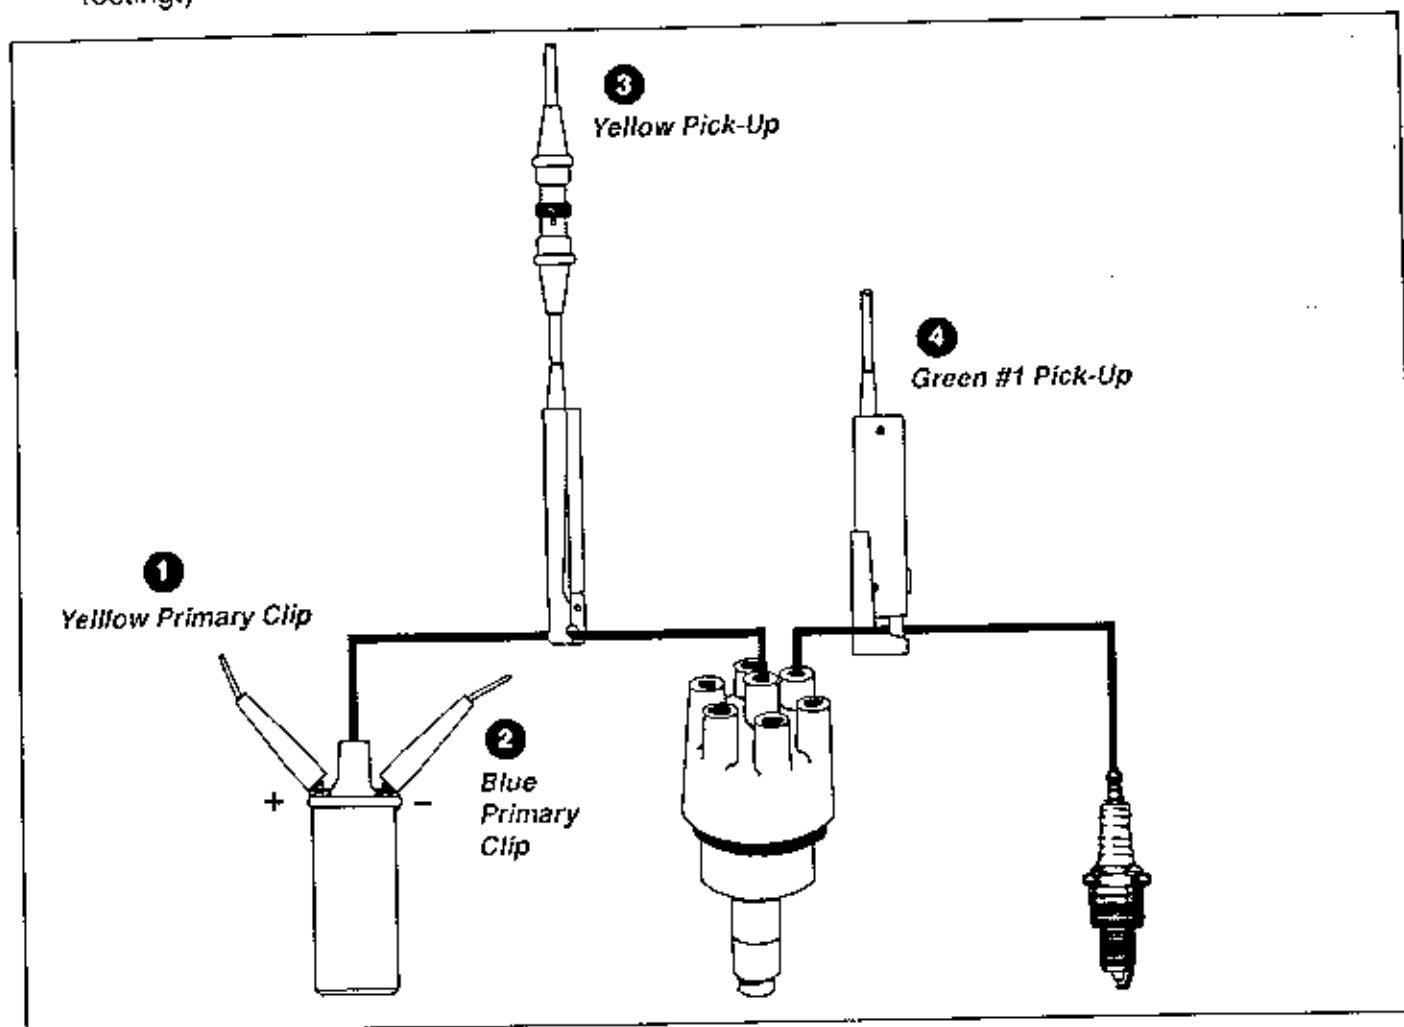

Figure 7
1. Yellow Primary Clip (see Figure 7) to positive (+) terminal on the coil. Supplies primary circuit info. (Not used in D.I.S. testing.)
2. Blue Primary Clip (see Figure 7) to negative (-) terminal on the coil. Supplies primary circuit information. (Not used in D.I.S. testing.)
3. Yellow Pickup (see Figure 7) around high tension lead from coil to distributor. Must be completely closed; not touching plug wires, metal parts, vacuum hoses or water. Supplies high voltage info. (Not used in D.I.S. testing.)
4. Green #1 Pickup (see Figure 7) around #1 spark plug wire. Supplies cylinder number information, trigger information.